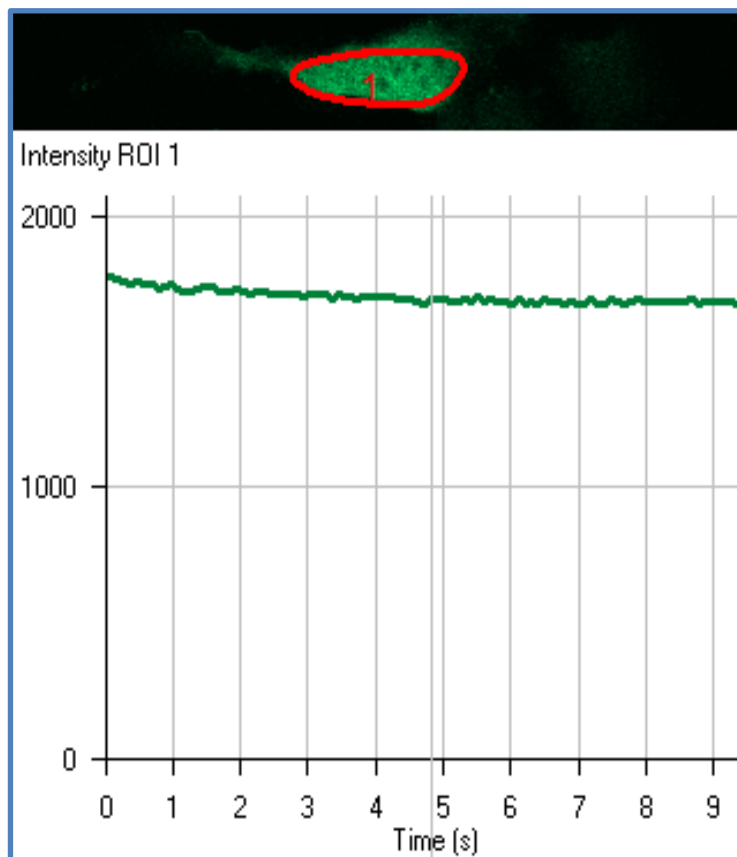

Figure 2.
- [To analyse the time series data in the LSM software, go to Mean ROI in the image window. Draw an ROI **within** the cell/object and generate a graph over time. See Figure 2]